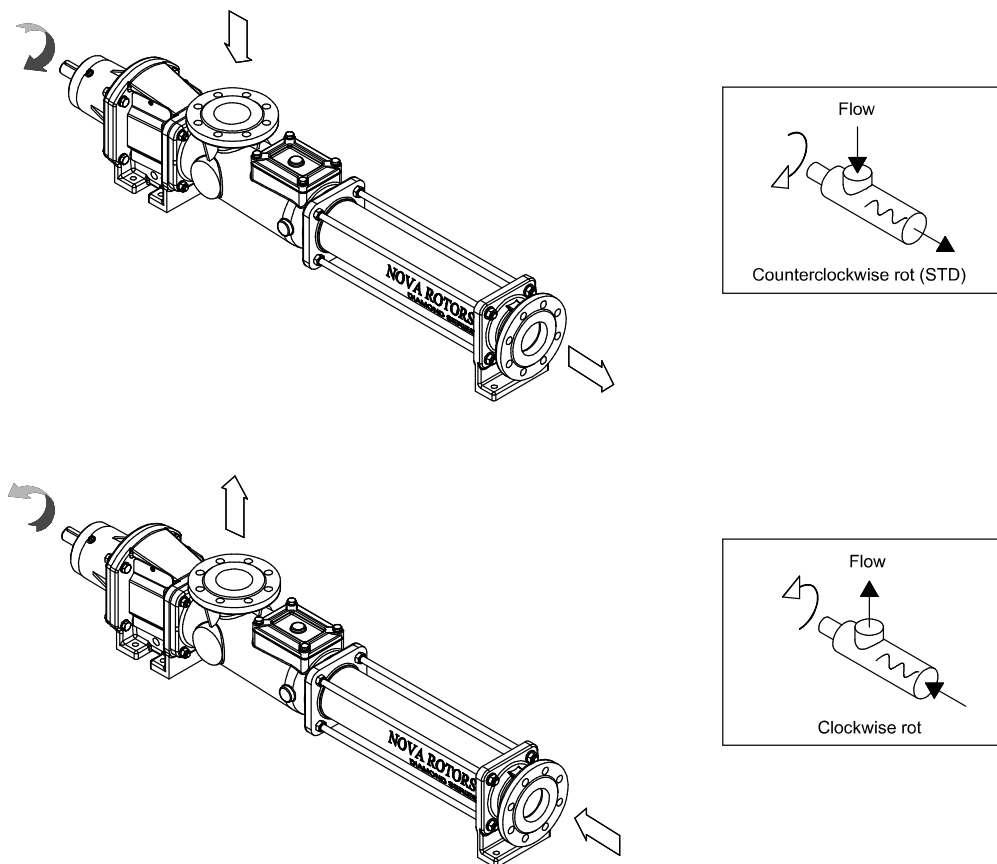

Fig.10 – Pump rotation direction
The rotation direction determines the fluid flow direction (**Fig.10**).
- check the fluid flow direction **Fig.10**;